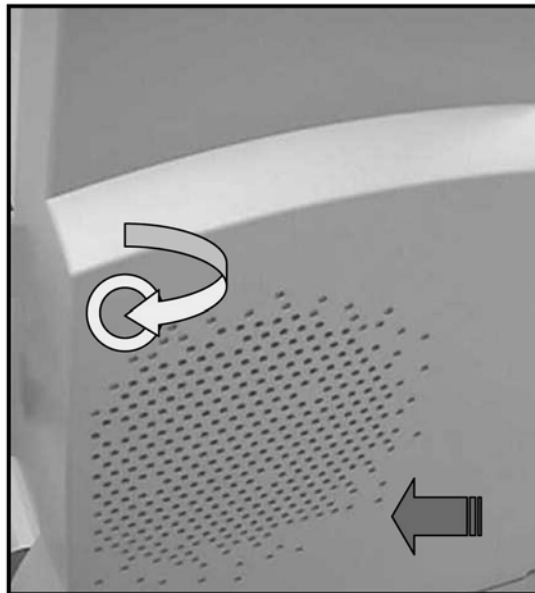

Figure 3
1. Slide the cover in place. Fit the cover by firmly pushing into place as indicated in Figure 3.